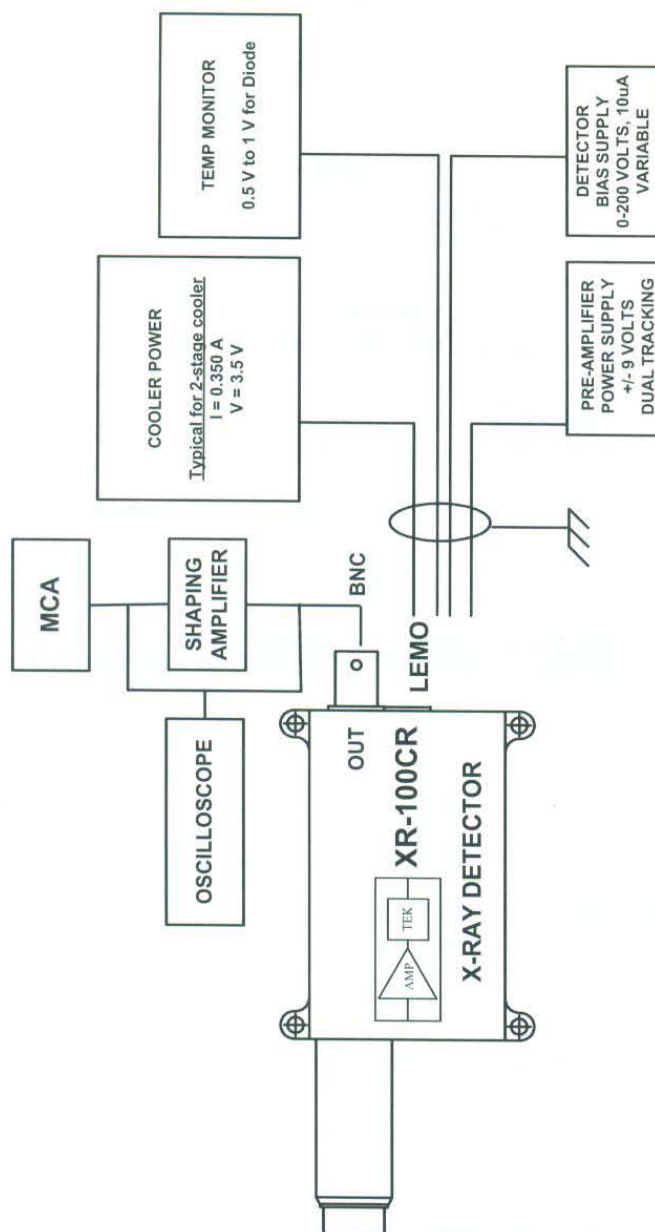

Figure 2. XR100CR typical connection diagram.
4.5 Connections and Turn-On Procedure (see figures 2 and 3)
3. Connect the LEMO CONNECTOR cable to the XR-100CR. Apply power to the XR-100CR through the D-CONNECTOR end of the cable according to Figures 2 and 3 and the Pin assignments given above in this manual.